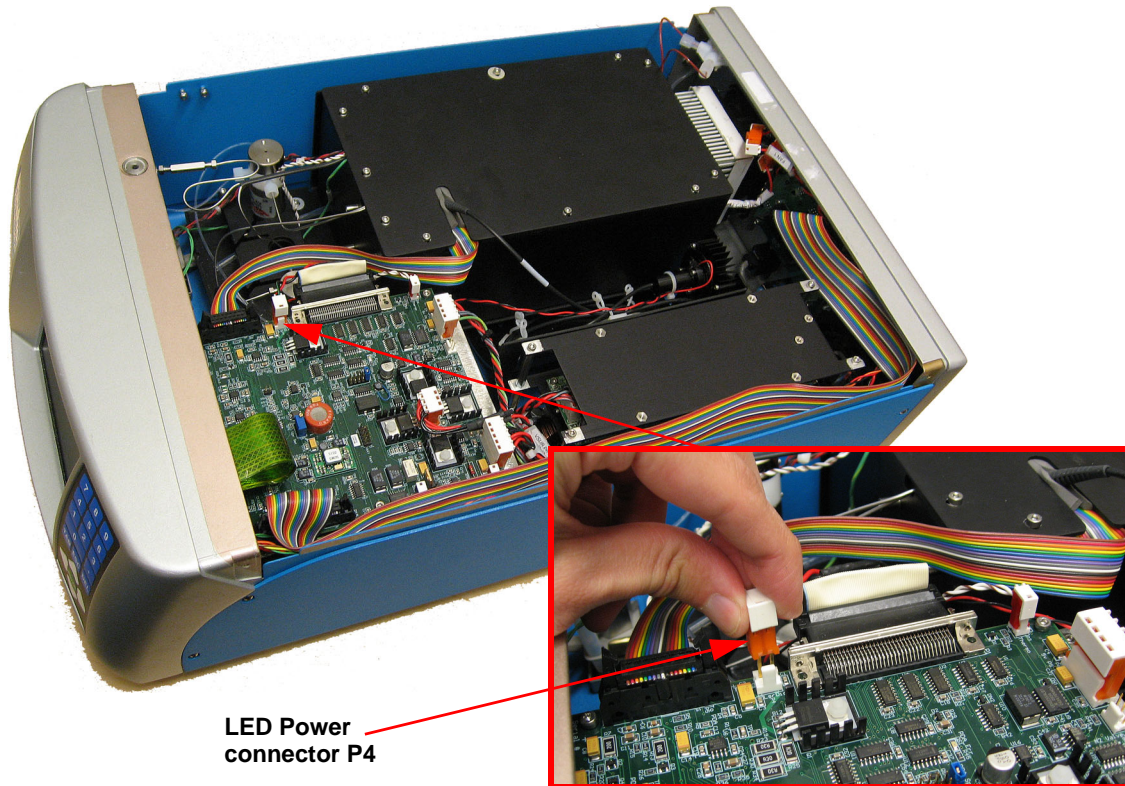

Figure 8-2: Cover removed
5. Connect the two-pin LED/fiber light source connector to the circuit board at the position marked P4. (See Figure 8-2 for location.)